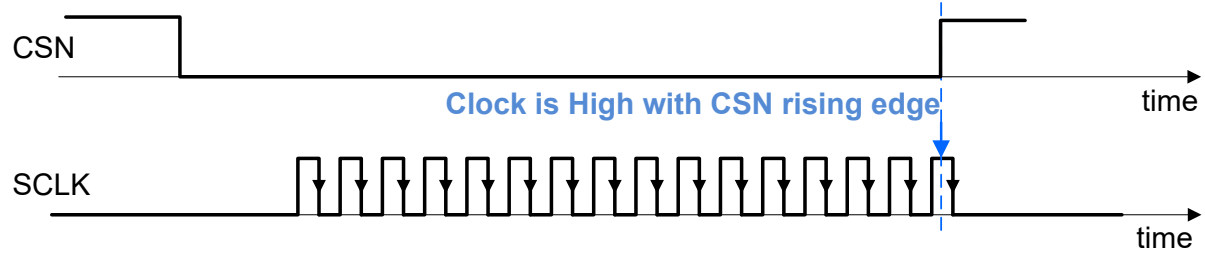

Figure 22 **Polarity error**
- A clock polarity error is detected, see the Figure 22 below: the incoming clock signal was high during CSN rising or falling edges (protocol error)